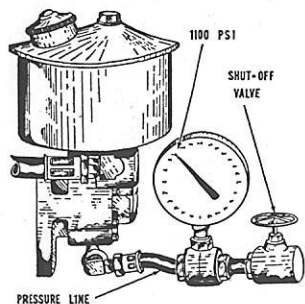
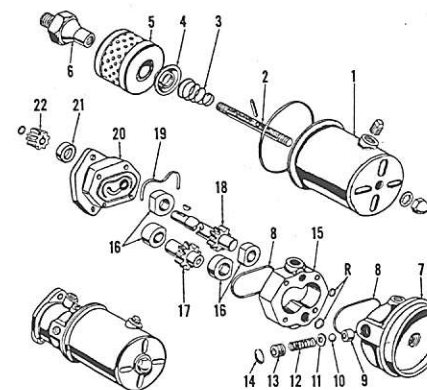

Fig. 19—View of typical power steering pump with pressure gage and shut-off valve installed for checking relief pressure. Refer to text.
Fig. 22—Exploded view of Wooster power steering pump of the type used on MF165 diesel.
Connect a pressure test gage and shut-off valve in series with the pump pressure line as shown in Fig. 19. Note that the pressure gage is connected in the circuit between the shut-off valve and the pump. Open the shut-off valve and run engine until operating fluid is warm. Open the throttle and close the shut-off valve only long enough to obtain a reading. Gage reading should be 1100 psi; if it is not, either the pump or relief valve is malfunctioning. On Model MF165 diesel, the relief valve can be adjusted after removing the expansion plug (14—Fig. 22). On all other models, the relief valve cartridge (14—Fig. 20 or 21) is renewable only as a unit, and is not adjustable.
Model MF165 diesel tractor is equipped with a Wooster, gear type pump shown exploded in Fig. 22. All other models use a Cessna gear type pump, refer to Fig. 20
24. Refer to Fig. 22 for an exploded view of pump. All parts are available individually; however, it is recommended that the pump gears (17 & 18) and four bearings (16) be renewed at the same time if any are damaged because of wear or scoring. If center housing (15) is also worn or scored, it is recommended that the pump be renewed.